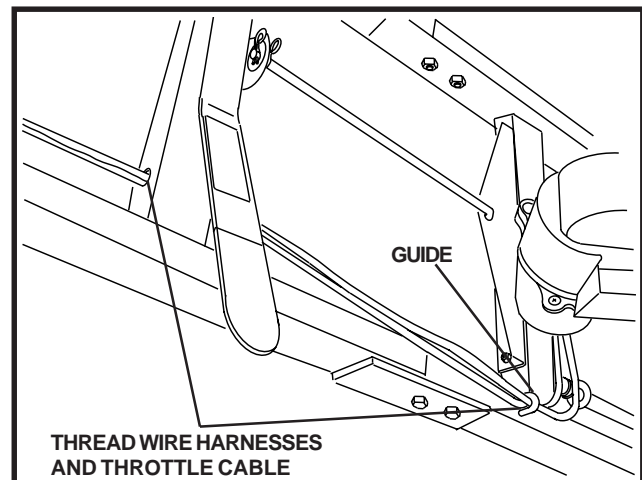

FIGURE 6
10. Route the wire harness from engine through guide and handle crossmember. Figure 6.
11. Route the throttle cable through guide on lower handle assembly. Figure 6.